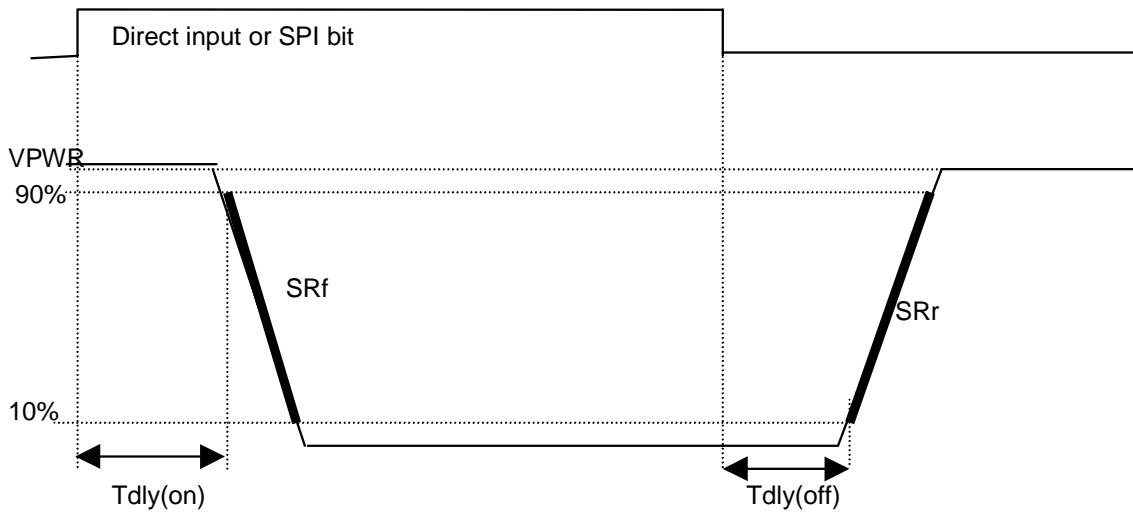

Figure 6. Output Slew Rates and Time Delays, Low Side
31. Low-side output rise and fall slew rates measured across a 5.0 Ω resistive load at low-side output = 10% to 90% (see Figure 6, page 17).
32. Low-side output turn-ON delay time measured from 50% of the rising ILS to 90% of V_{OUT} with R_L = 27 Ω resistive load (see Figure 6, page 17).
33. Low-side output turn-OFF delay time measured from 50% of the falling ILS to 10% of V_{OUT} with R_L = 27 Ω resistive load (see Figure 6, page 17). These parameters are guaranteed by process monitoring.